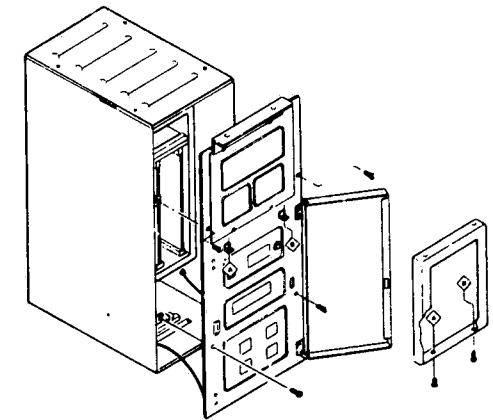

Figure 8-13. REMOVAL OF FRONT PANEL.
1. Primary and secondary control panels, controller, and other components in the control console are made accessible by removing six screws from the front panel, as shown in Figure 8-13.